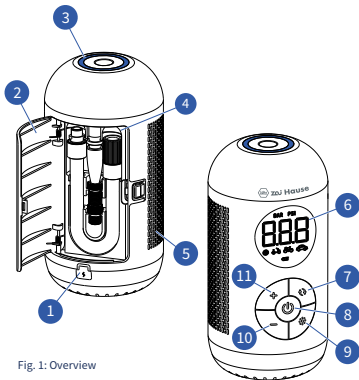
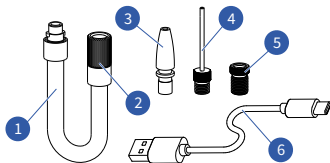

Fig. 1: Overview
Fig. 2: Accessories
Schrader valve (Fig. 2/②): The air pump can be directly connected to a schrader valve, e.g., for tires of cars, motorcycles, e-bikes or most mountain bikes.
Plastic nozzle adapter (Fig. 2/③): The plastic nozzle adapter is used, e.g., for various toys, air beds or rubber rings.
Needle valve adapter (Fig. 2/④): The needle valve adapter is used, e.g., for balls such as basketballs or footballs.
Presta valve adapter (Fig. 2/⑤): The presta valve adapter is used, e.g., for tires of bicycles or certain mountain bikes.
1. Insert the charging cord (Fig. 2/6) into the charging socket (Fig. 1/1) and ensure that it is fully connected (Fig. 3).
The battery level indicator on the display (Fig. 1/6) has different colours to indicate the air pump's remaining battery level.
1. Open the backside lid (Fig. 1/ 2).
2. Take the air hose and the air valve adapter out of the case (Fig. 1/ 4).
- On the top of the tool, there is a ring LED light (Fig. 1/ 3), which can be switched on/off.